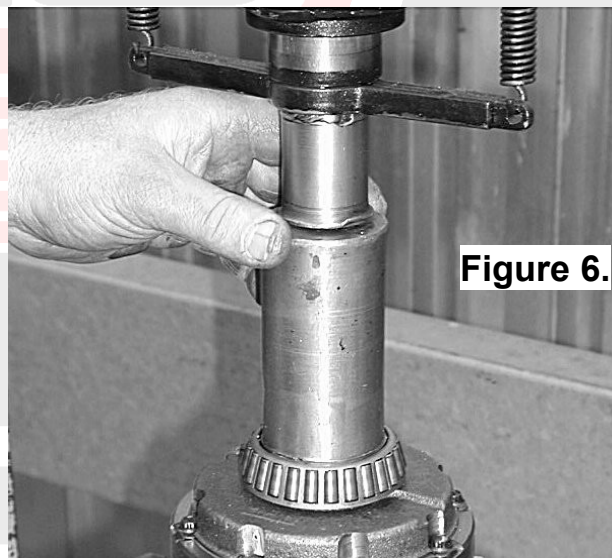

Figure 6.
- Press the bearing cone which was supplied with the *Air Locker* kit onto the bearing journal, taking care not to damage the o-ring grooves. (Figure 6.)